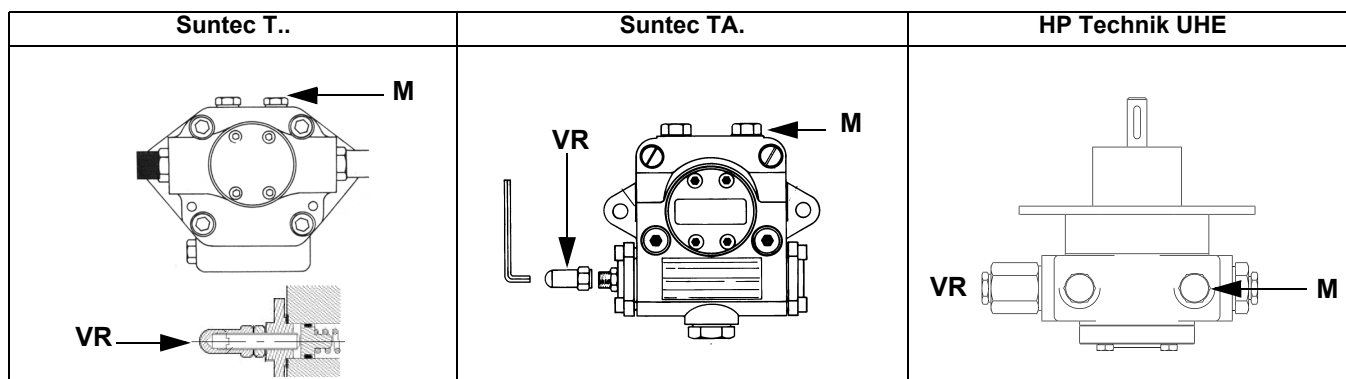
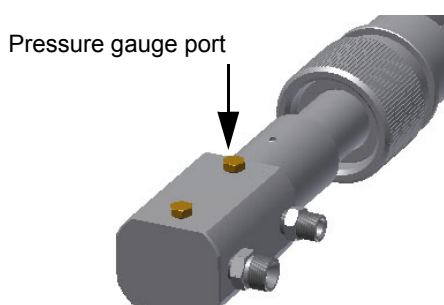

Fig. 5
Fig. 6
- 3 bleed the air from the **M** pressure gauge port (Fig. 5) by loosening the cap without removing it, then release the contactor.
- 5 Only if necessary, adjust the supply pressure as follows (see related paragraph); insert a pressure gauge into the port shown on Fig. 6 and act on the pump adjusting screw **VR** (see Fig. 5) as to get the nozzle pressure at 20bar (Monarch or Fluidics nozzles - see page 45-38).